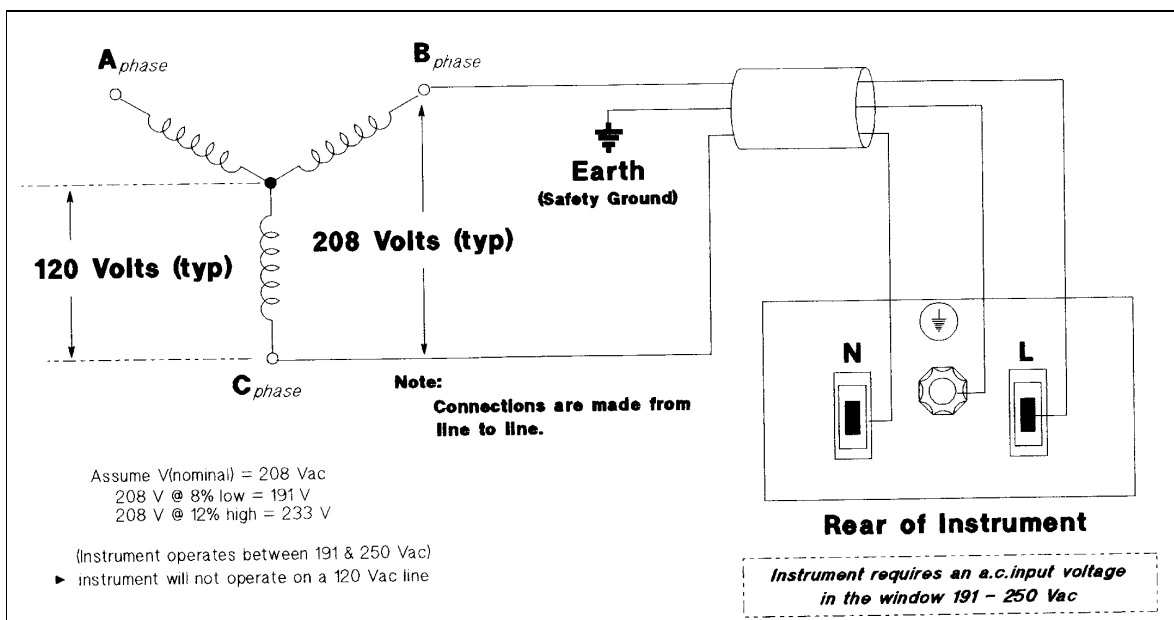

Figure 2-3. Connection to a 3-Phase Line
1. If they are not already in place, position the strain relief connector (11), safety cover (5), rubber boot (9), and connector nut (8) on the power cord (7).
2. Secure the ground wire (2) to the chassis earth ground stud.
3. For single-phase operation, connect the neutral wire (1) to the N input terminal and the line wire (3) to the L input terminal (this line is fused inside the unit).
4. For line-to-line operation from a three-phase source as shown in Figure 2-3, connect one phase to the N input terminal and another phase to the L input terminal (this line is fused inside the unit).
5. Position the safety cover over the power input terminals and tighten the cover screws (10) and strain relief connector screws (6).